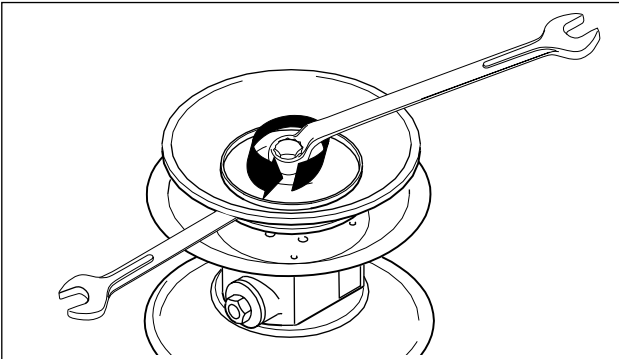
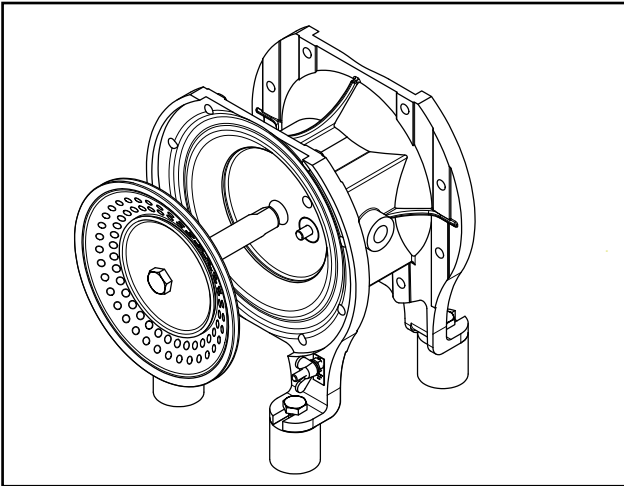

Fig. 10: Loosen the diaphragm plate. (Not used for nopped E4® diaphragms.)
Fig. 21: Pulling out the diaphragm with piston rod
- Loosen the outer diaphragm plate and take it off with the diaphragm (Fig. 10).
- Loosen the outer diaphragm plate and remove with the diaphragm (Fig. 10 + Fig. 21).
also see 5.3.2.3. Deviating from fig. 21, loosen the diaphragm plates first of all. Remove the piston rod separately from the control block.